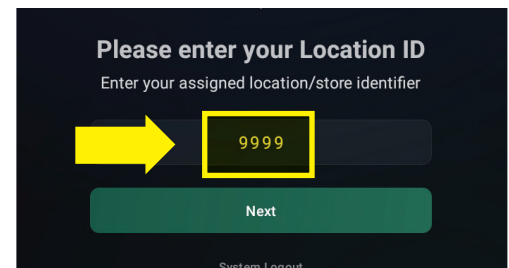

Figure 25
9. Enter Your Location ID listed on your CloudSent Log On Sheet found in the Red Bag (Figure 25).